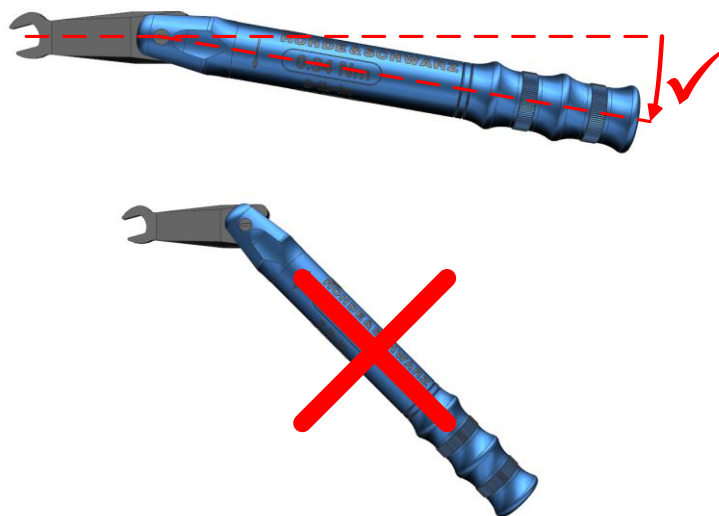

Figure 17 - Correct torque setting (top). Too far (bottom)
5. The correct torque is reached when the torque wrench “breaks” as shown in Figure 17. Additional force beyond this limit should not be applied.